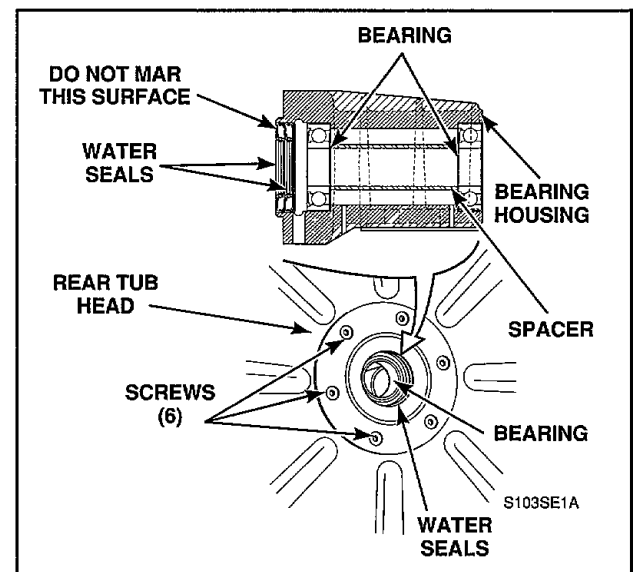

Figure 46
- r. Remove six screws, lockwashers, gasket retainer and gaskets holding rear tub head to bearing housing, *Figure 46*.
- Remove six screws, lockwashers, gasket retainer and gaskets holding rear tub head to bearing housing, *Figure 46*.
NOTE: New seals should be installed with spring loaded lip facing in as shown in *Figure 46*.
IMPORTANT: Be careful when installing second water seal as not to mar the surface where the "V" ring seal contacts the water seal, *Figure 46*.
- r. Remove six screws, lockwashers, gasket retainers and gaskets holding rear tub head to bearing housing, *Figure 46*.
NOTE: When replacing bearings, we recommend installing new water seals as per paragraph 34. Apply a retaining compound (such as Loctite) to outside diameter of bearings. Install bearings with sealed side facing rear tub head, *Figure 46 or 47*.